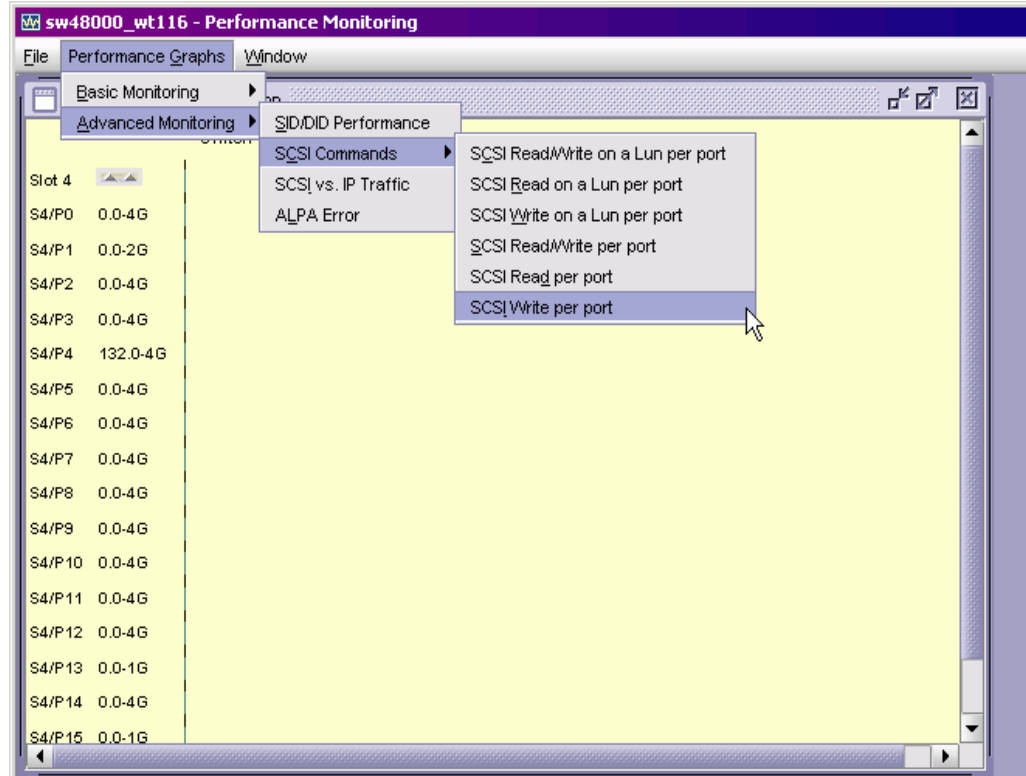

FIGURE 52 Accessing performance graphs
- For the Brocade 24000 and 48000 directors, slot numbers are displayed with expansion arrows next to them, as shown in Figure 52 on page 125. Click the arrows to expand and contract the list of ports per slot.
Port throughput utilization is represented by a horizontal bar for each selected port, which gets longer or shorter depending on the percent utilization for that port at the last poll time. Thin short vertical intersecting bars give a historical perspective by representing the highest and lowest values reached for each selected port since the graph was opened. A third bar between them represents the average of all values polled (see Figure 52).
Figure 52 shows how to access the list of Advanced Performance Monitoring graphs using Web Tools. This example displays the graphs available in the Performance Monitoring window for a Brocade 24000 director with the Advanced Performance Monitoring license installed. Note that the slot number is identified.